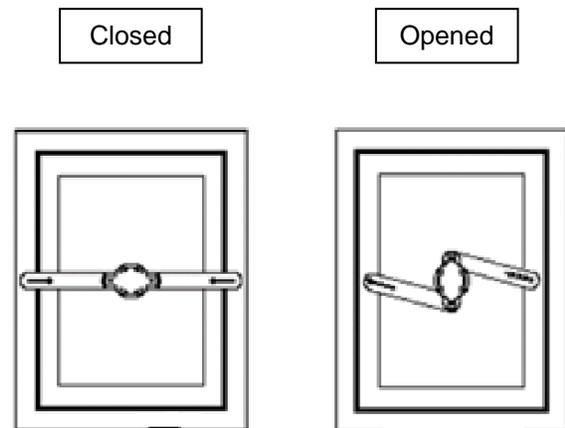

Figure 58
- Verify the functionality of the escape hatch's release mechanism prior to installation and before use. Please ensure that the hatch's arms are retracted when open and extended when closed. (Figure 58)